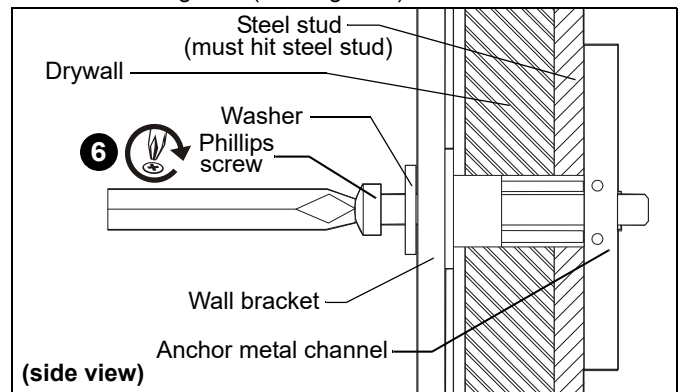

Figure 8
6. Insert 1/4-20 x 1-3/4" Phillips pan head screw through 1/4" washer, corresponding mounting hole in wall bracket and into anchor, and tighten until flush against wall bracket. DO NOT over tighten! (See Figure 8)